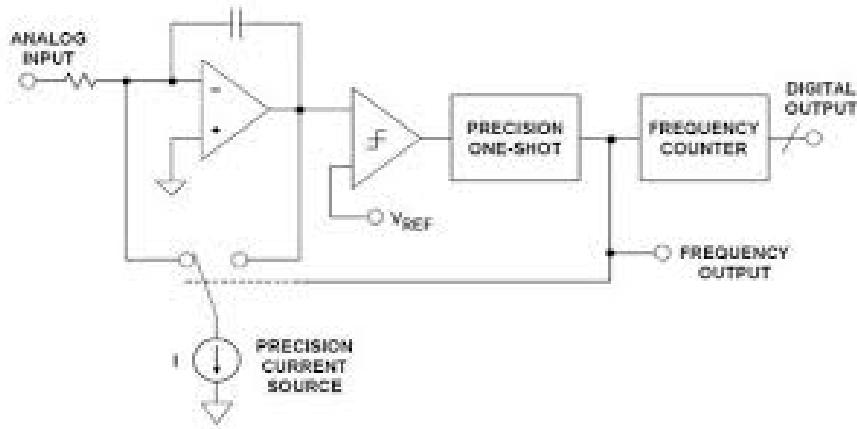

Fig 4.15 Voltage-to-frequency converter (VFC)
A voltage-to-frequency converter (VFC) is an oscillator whose frequency is linearly proportional to a control voltage. The circuit diagram of VFC is shown in Fig: 4.15..The integrator capacitor is charged by the signal. When it passes the comparator threshold, a fixed charge is removed from the capacitor, but the input current continues to flow during the discharge, so no input charge is lost. The fixed charge is defined by the precision current source and the pulse width of the precision monostable. The output pulse rate is thus accurately proportional to the rate at which the integrator charges from the input. At low frequencies, the limits on the performance of this VFC are set by the stability of the current source and the monostable timing (which depends on the monostable capacitor). The absolute value and temperature stability of the integration capacitor do not affect the accuracy, although its leakage and dielectric absorption (DA) do. At high frequencies, second-order effects, such as switching transients in the integrator and the precision of the monostable when it is retriggered very soon after the end of a pulse, take their toll on accuracy and linearity